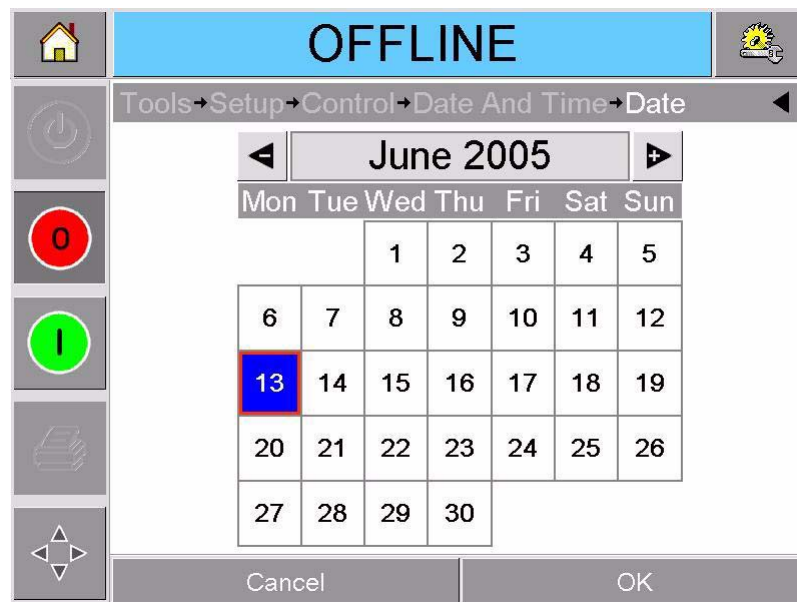

Figure 3-10: System Date Setup
- 5 Touch Date to set the Date, and the calendar page will appear, as shown in Figure 3-10.